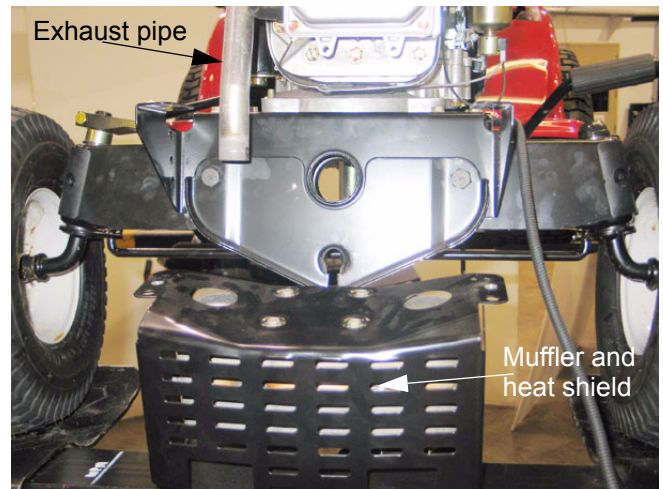

Figure 16.10
- 16.10. Remove the muffler heat shield and the muffler as one unit. See Figure 16.10.